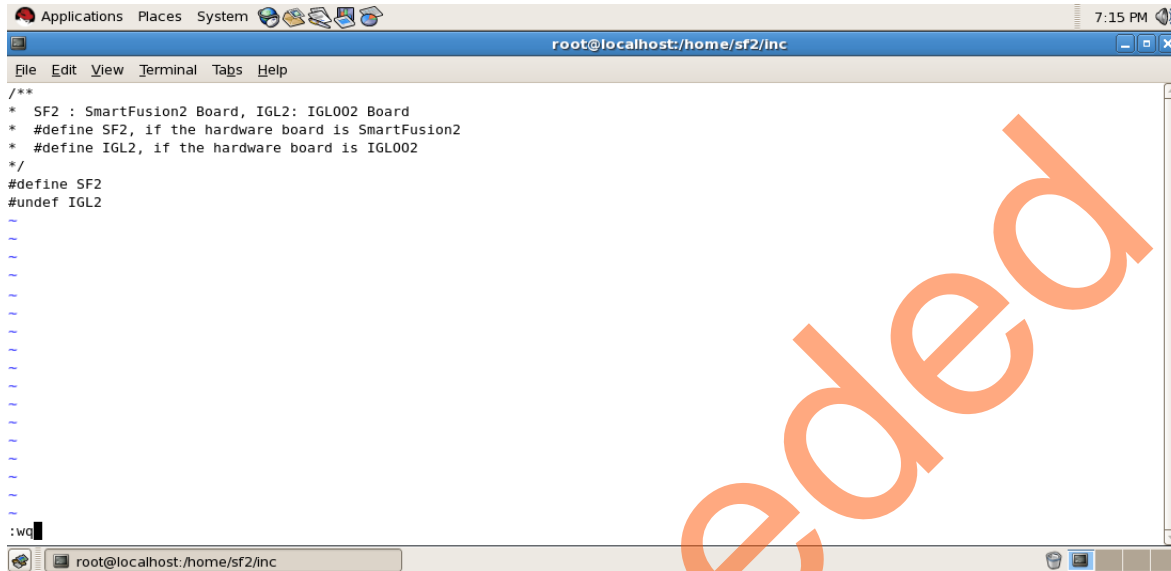

Figure 70 • Edit board.h File
6. Edit the `board.h` file for SmartFusion2 Development Kit as shown in Figure 70.